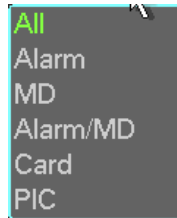

Figure 4-33
- Picture backup: Please set the corresponding time, channel and then select the type as PIC from the dropdown list. See Figure 4-33. Please click the Add button and then select the pictures. Click the Start button; you can copy the specified pictures to the selected portable devices.